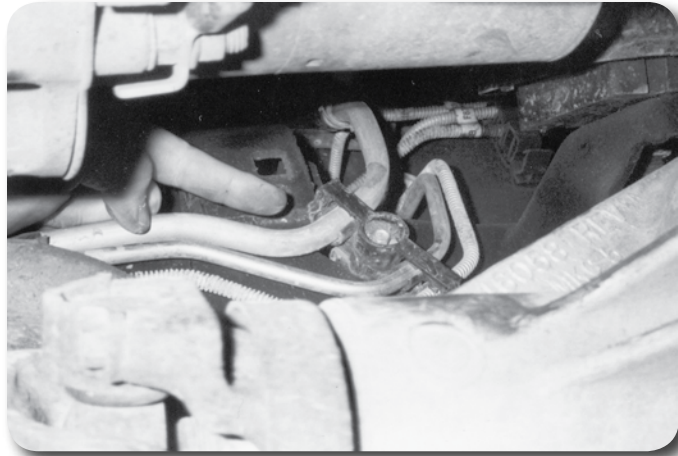

Figure 7
15. The large diameter line must be removed from the mounting bracket **Figure 7**. Remove the bolt that closes the bracket and remove the line from the bracket. Save hardware.